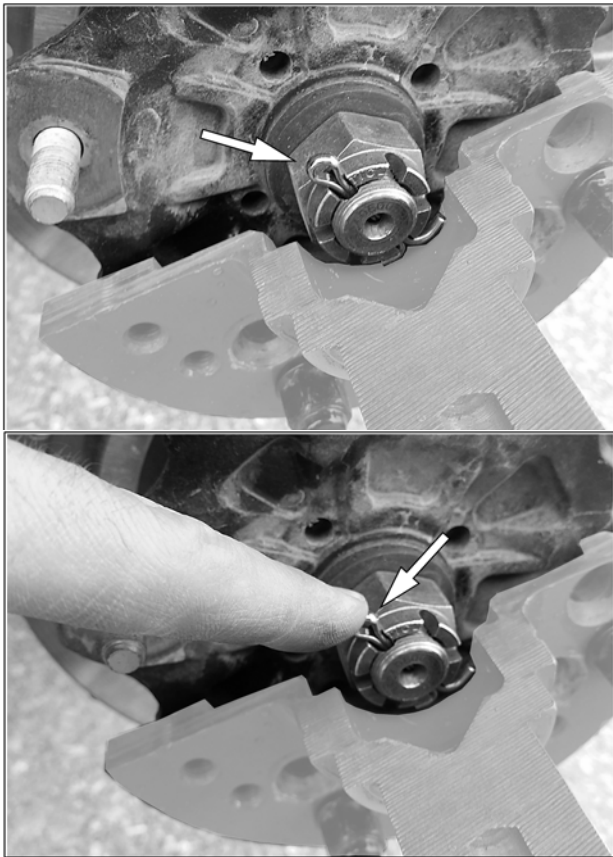

Fig. 17
- Modify position of cotter pin to avoid interference with track system hub during installation. There must not be any resistance when track system is installed on vehicle's wheel hub. See Fig. 17